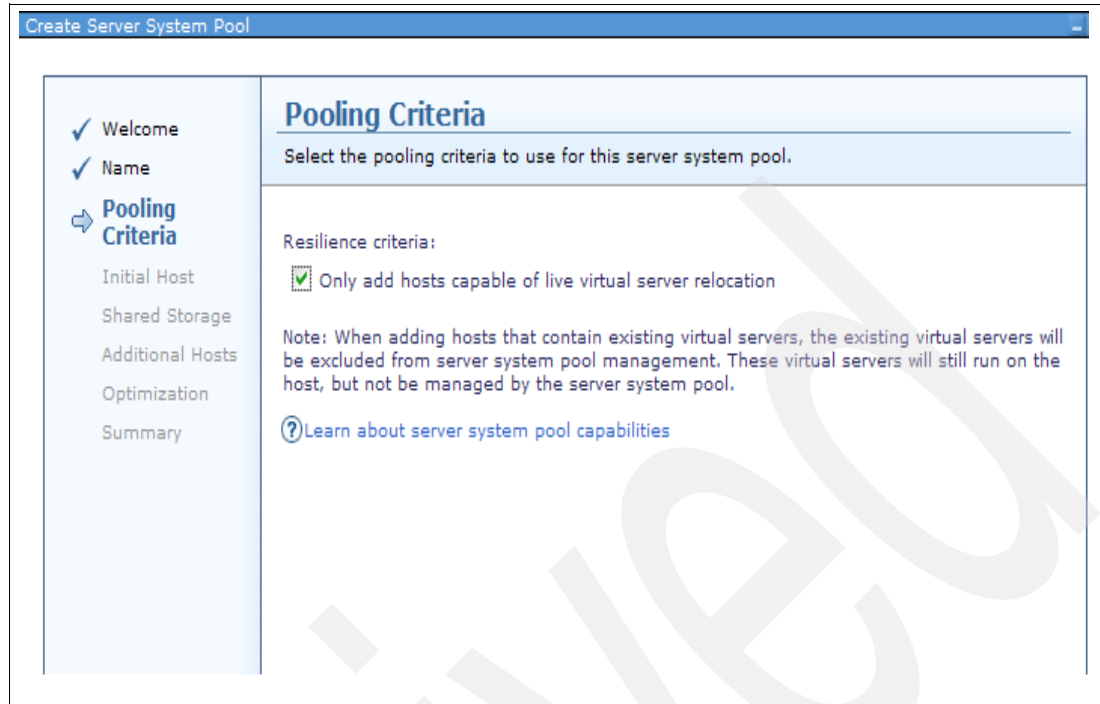

Figure 5-21 Server pool resilience criteria
3. While creating the server pool, you are presented with options to select the pool resilience criteria, as shown in Figure 5-21 on page 181.